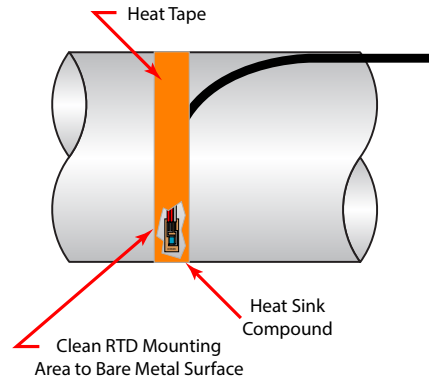

Figure 35: Surface mount RTD installation
4. Place a small amount of heat sink compound on the pipe in the RTD installation location. See *Figure 35*.